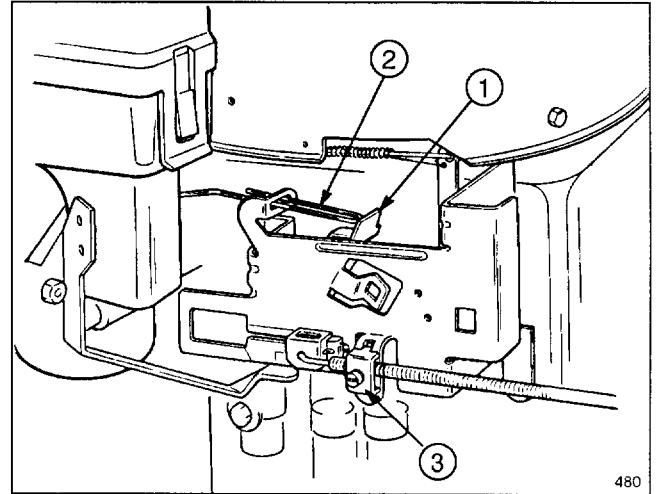

Figure 15
2. The throttle lever should be just touching the choke link (Fig. 15); if they are not in this position, an adjustment is necessary:
- B. Loosen the throttle cable clamp screw (Fig. 15) and move the control cable casing and wire until the throttle lever touches choke link.